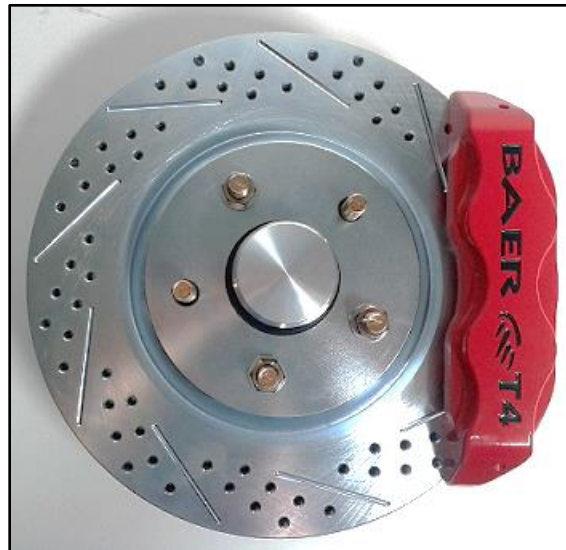

Figure 6: Track4 caliper installed onto bracket (drivers side)
7. With the pads removed, using the supplied M12-1.75 x 45m socket head bolts and washers, install the correct side caliper (with bleed screw pointing upward) onto the intermediate bracket. Simply snug the bolts for now as shimming will require removal. See Figure 6 for reference.